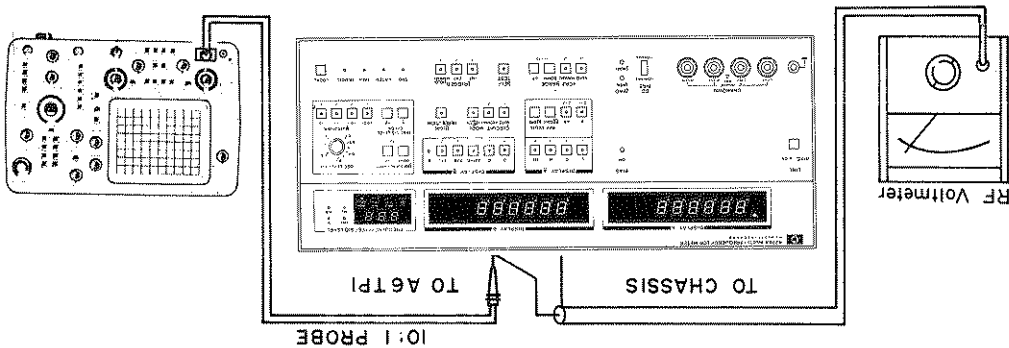

Figure 5-6. A6 Oscillator Adjustment.
c. Connect 10:1 probe to A6P1 and ground lead to 4274A chassis as shown in Figure 5-6.